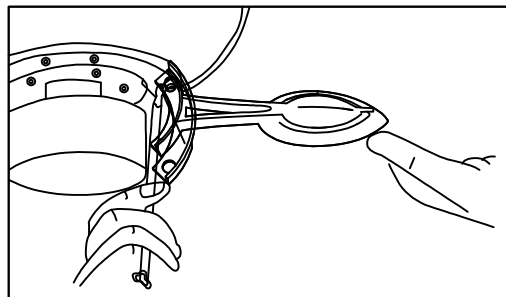

Figure 2
2) Fix the fixed support blades on the motor in turn..(Figure 2)